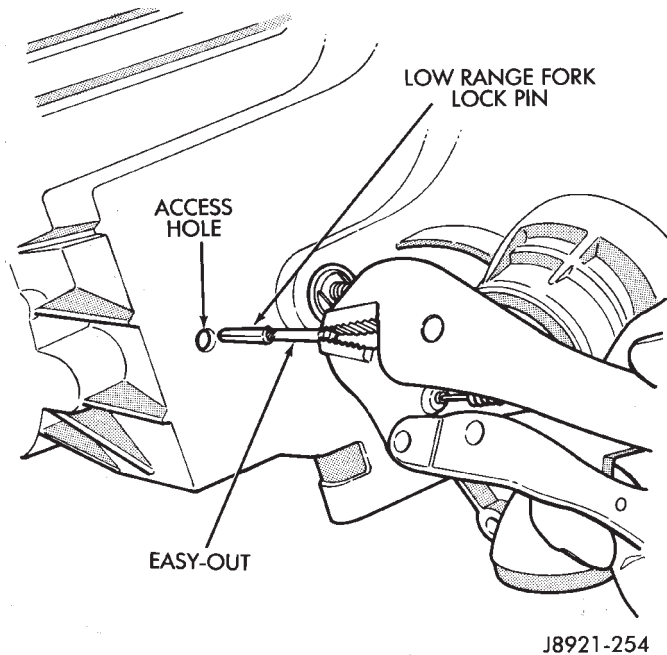

Fig. 80 Installing Low Range Fork Lockpin
(21) Insert lockpin through access hole and into shift fork (Fig. 80). Then remove easy-out and seat the pin with pin punch.
(20) Insert an easy-out in range fork lockpin to hold it securely for installation (Fig. 80). **Lockpin is slightly tapered on one end. Insert tapered end into fork and rail.**